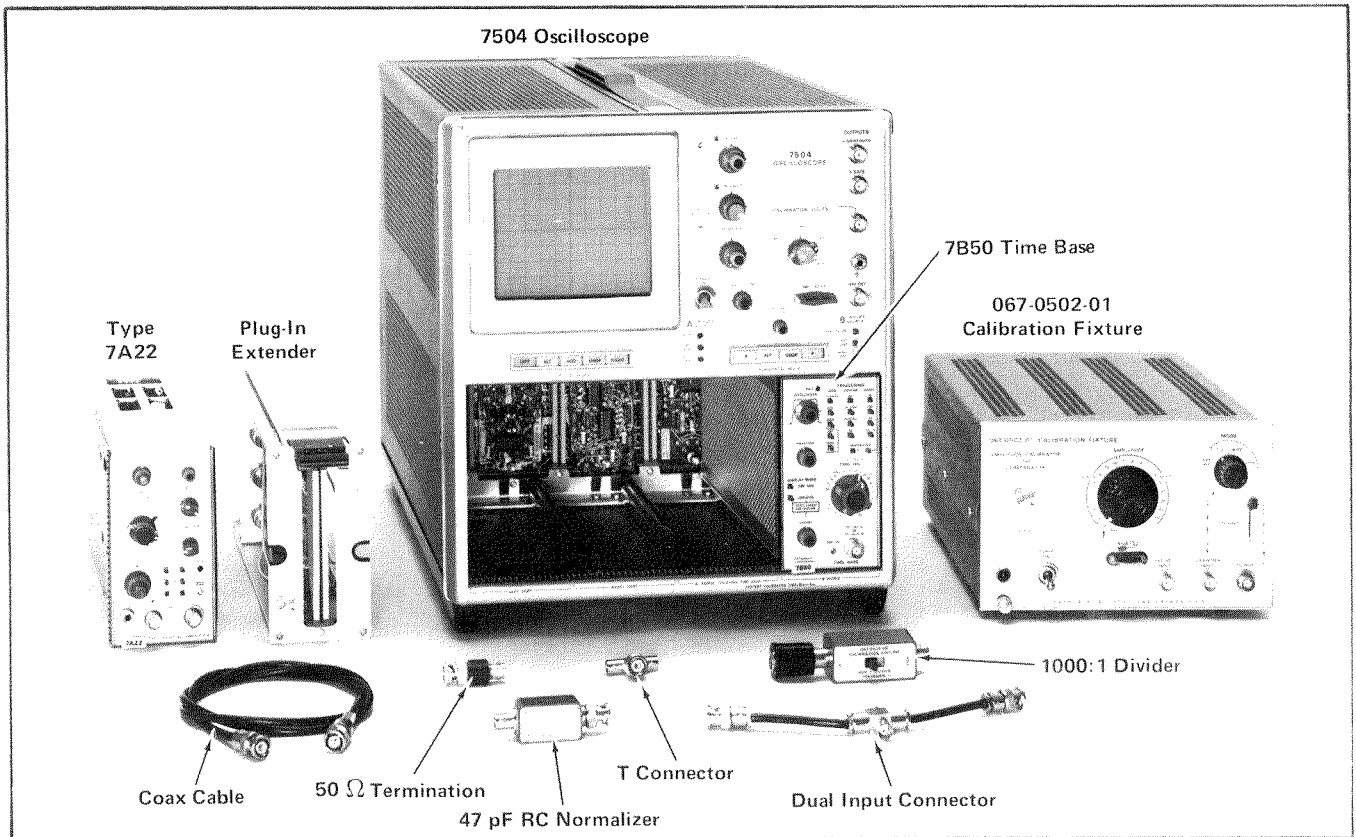

Fig. 5-2. Equipment required for steps 6 through 19.
6. Check or Adjust GAIN ❶
- a. Test equipment setup is shown in Fig. 5-2.